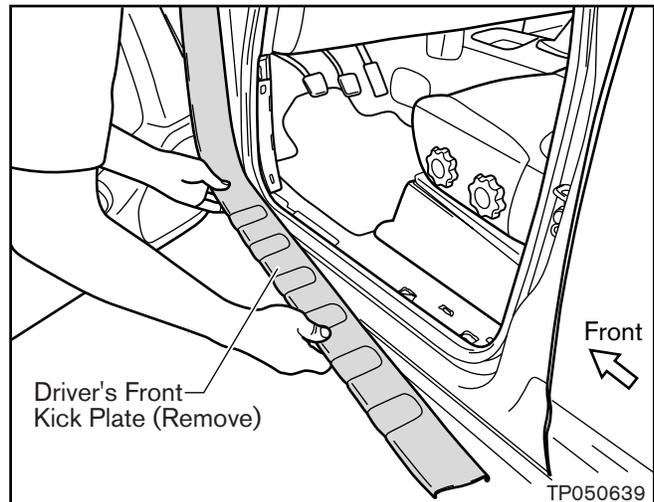

Figure 10
3. Remove the Driver’s Front Kick Plate (see Figure 10).